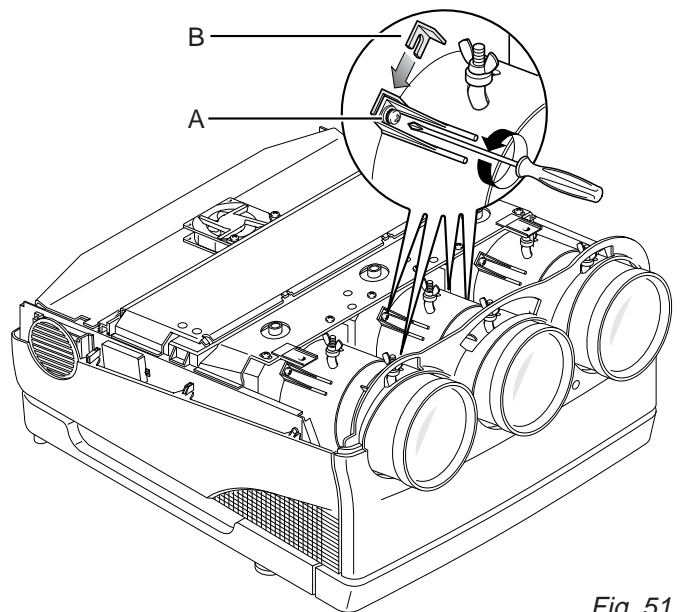

Fig. 51
Now slightly loosen the 4 screws (A) for each tube, change the spacers (B) Fig. 51 (see the spacers table) and then tighten the screws.